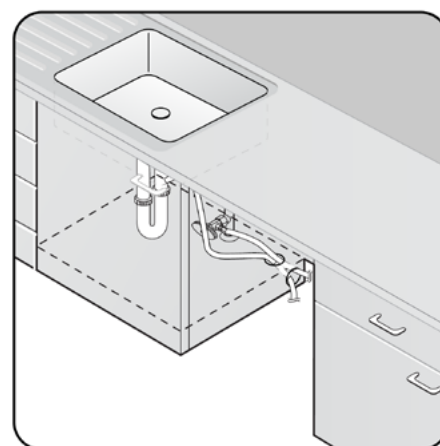

Figure 1-2
2. If the base inside the sink cabinet is raised above the kitchen floor and is higher than the connections on the dishwasher, make a hole in the base inside the cabinet and in the cabinet side as shown in Figure 1-2. NOTE: Depending on where your electrical outlet is, you may need to cut a hole in the opposite cabinet side.